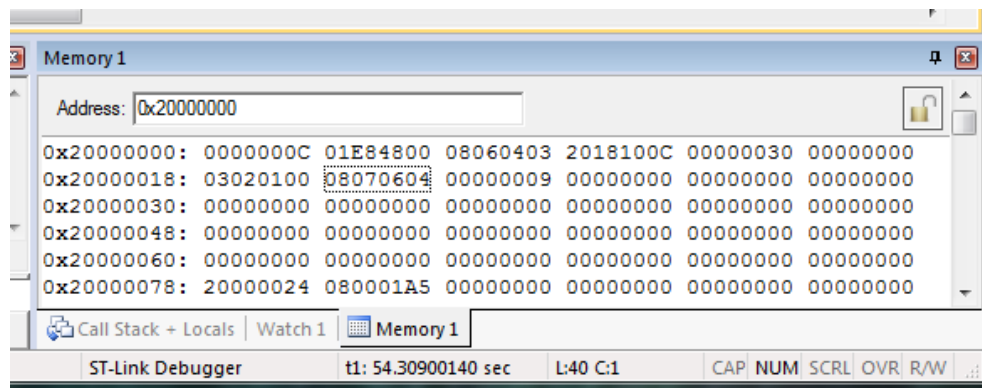

Figure 3. Memory 1 Window, showing the contents of memory beginning at address 0x20000000, displayed as 32-bit unsigned values.
Memory Window (bottom left corner of the debug window) – Up to four memory windows can be opened, each displaying the contents of selected addresses in memory. As shown in Figure 3, the starting address of a block of memory to be displayed is entered in the Address box, remembering that hexadecimal values begin with “0x” (otherwise the address will be interpreted as a decimal value.) The data format can be changed as desired, to facilitate studying the data, by right-clicking in the window and selecting the desired format:
- For each format, signed or unsigned, you can select “char”, “short”, “int”, or “long”, to display data as one, two, four, or eight-byte values, respectively. Figure 3 format is Unsigned > int.